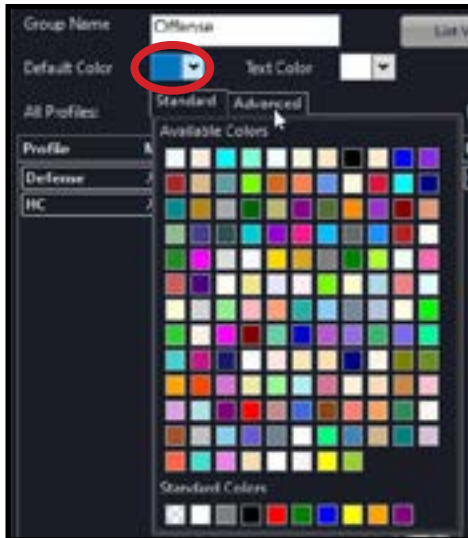

Figure 105: Editing Group Colors
6. Open the drop-down color pickers in the Color and Text Color fields, and choose a color to represent the group (see Figure 105). This color choice appears on the RP Icons (X-Ware's Home screen) for profiles with the group assignment.